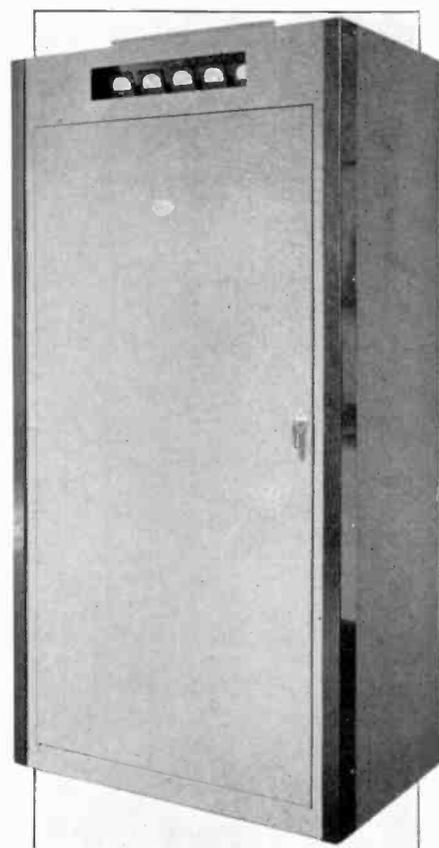

FIG. 1. REL MODEL 421A 500-WATT UNIT, WITH QUICK-CHANGE FREQUENCY CONTROL
**General Description** ★ Figs. 1 and 2 show how the design was worked out in the finished transmitter. It is designated as the REL type 421A, and is now being produced as a standard model.